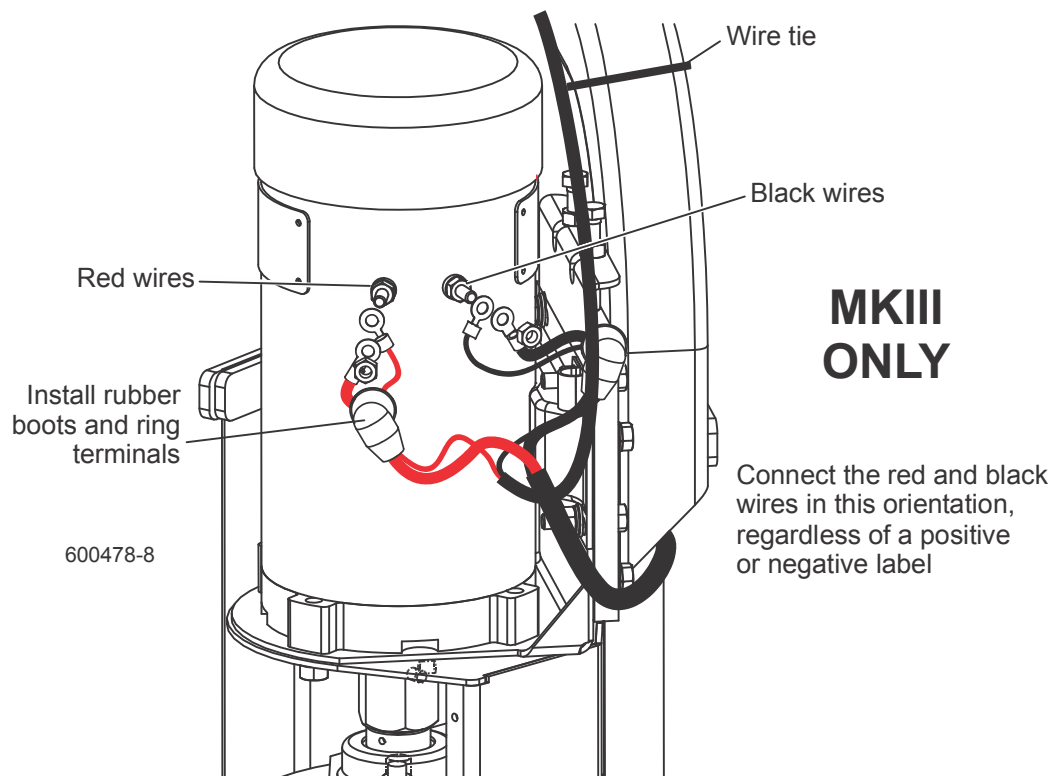

FIG. 2-5 MKIII ONLY
See Figure 2-5.
7. Connect the red motor and light wires to the **left motor terminal** and replace the terminal nut to secure the wires. **Reference figure 2-5.**
8. Connect both black wires to the **right motor terminal** and replace the terminal nut to secure the wires. **Reference figure 2-5.**